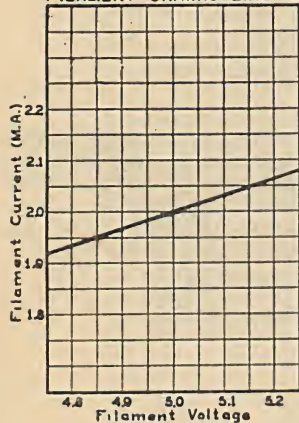

Fig. 1
**Filament Characteristic**—Fig. 1 shows the change of filament current with various filament voltages.